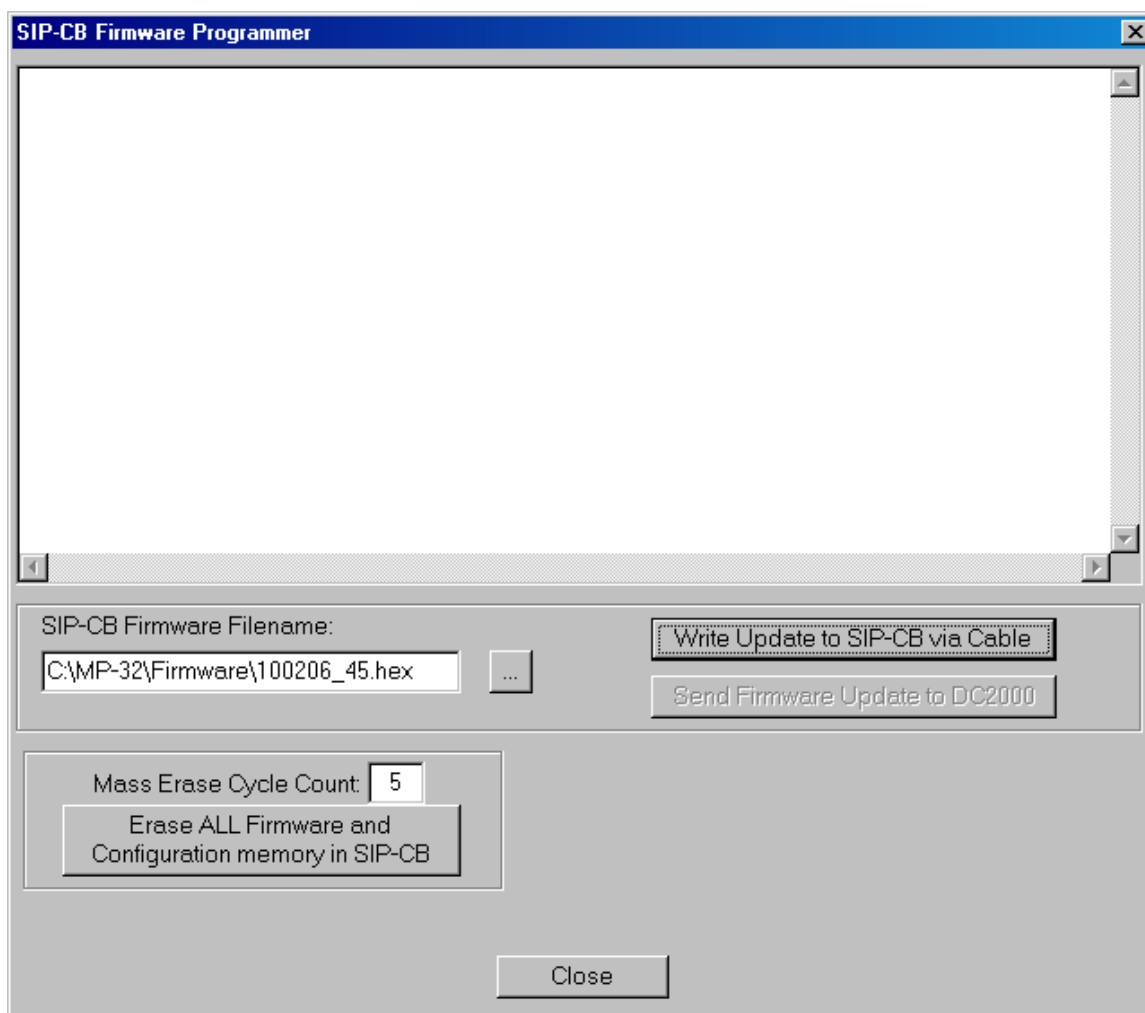

Figure 4-16
- 2) Select the FIRMWARE UPDATE button. The screen shown in Figure 4-16 will appear.
- 1) Select the FIRMWARE UPDATE button. The screen shown in Figure 4-16 will appear.